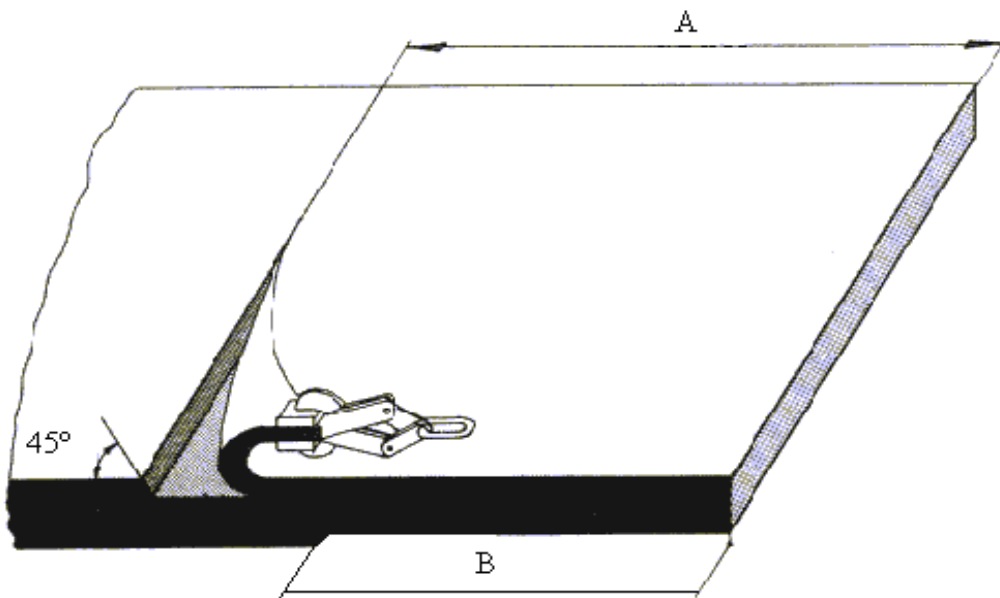

Figure 2: Removing the covers (including transversal cords)
- Remove the top cover (including transversal cords) over a length A (see table 1 and figure 2).
- Remove the bottom cover (if applicable, including transversal cords) over a length B ( see table 1 and figure 2).